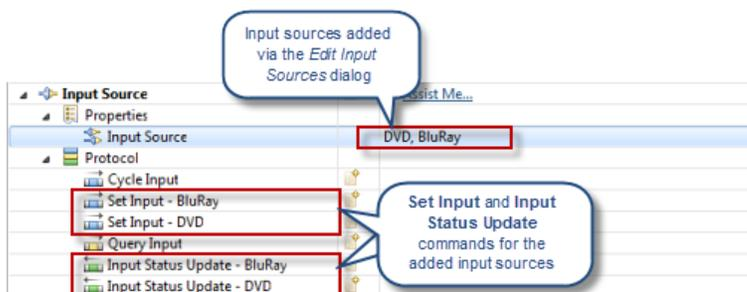

FIG. 69 Added Input Sources
6. Click **OK** to close the *Edit Input Sources* dialog. The input sources are now indicated in the Data row for the Input Source function (FIG. 69):